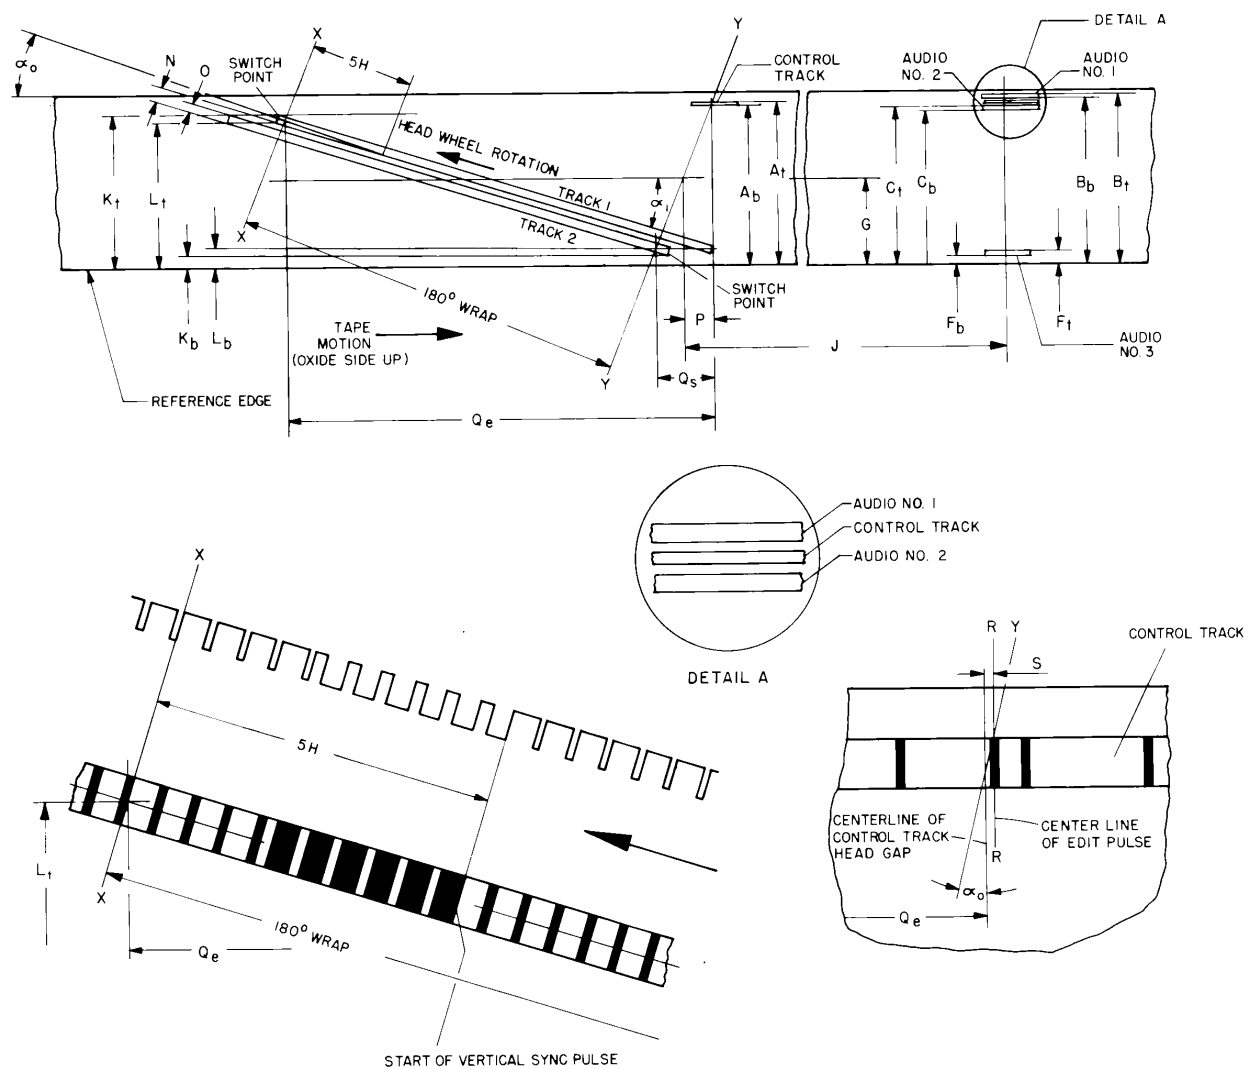

Figure 1 – Record location and dimensions
2.2 The reference edge for dimensions in this standard shall be the lower edge as shown in figure 1.
3.1 The lateral location and dimensions of the video, audio, and control tracks shall be in accordance with figure 1 and table 1.
3.3 The audio and cue recordings shall be downstream from the associated video information (see dimension J in figure 1 and table 1).